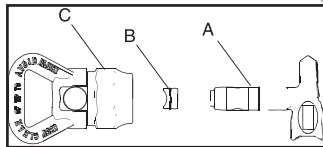

Fig. 17
2. Use spray tip (A) to insert the sealing element (B) into the guard (C). (Fig. 17)